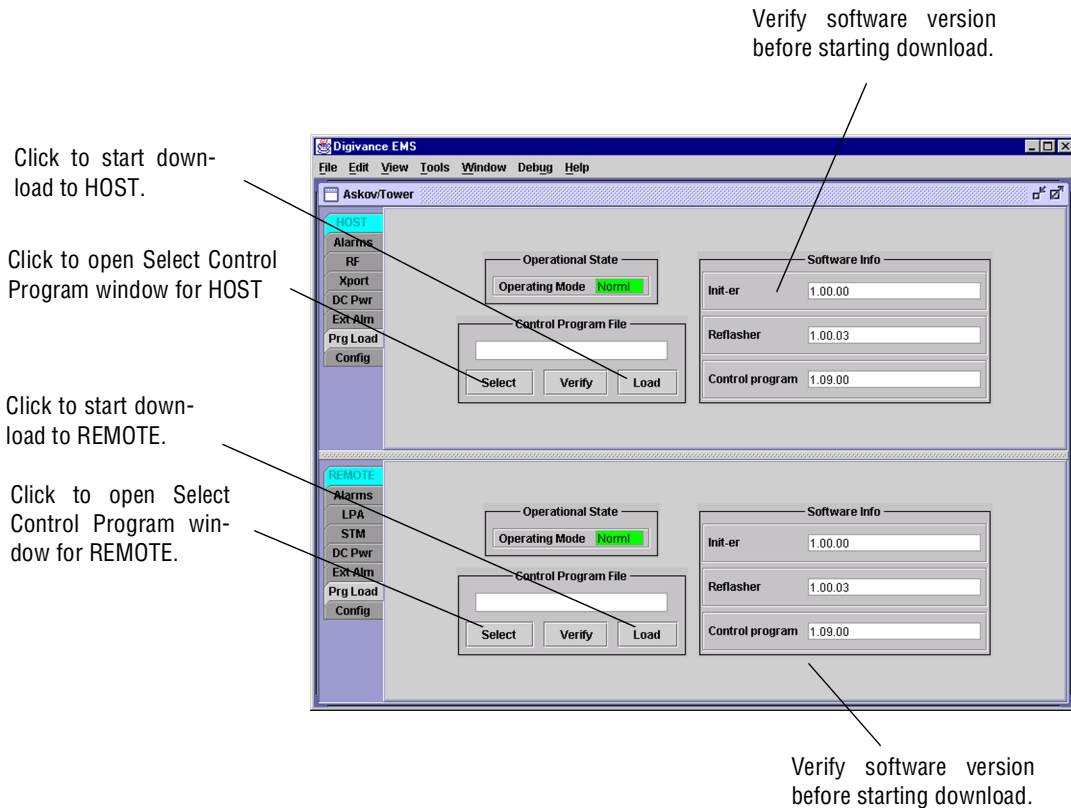
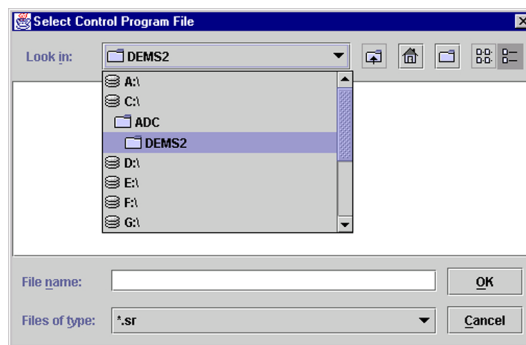

Figure 4-3. HOST and REMOTE Prg Load Displays
Figure 4-4. Select Control Program File Window
1. Click on the **HOST Prg Load** tab and on the **REMOTE Prg Load** tab. The **HOST Prg Load** display and the **Remote Prg Load** display will open within the DEMS main window as shown in Figure 4-3.
2. Click on the **HOST Select** button (see Figure 4-3). The **Select Control Program File** window will open as shown in Figure 4-4. Browse until the folder where the Control Program files are located is selected and the software files are displayed in the window.
5. Click on the **HOST Load** button (see Figure 4-3) to start the download.